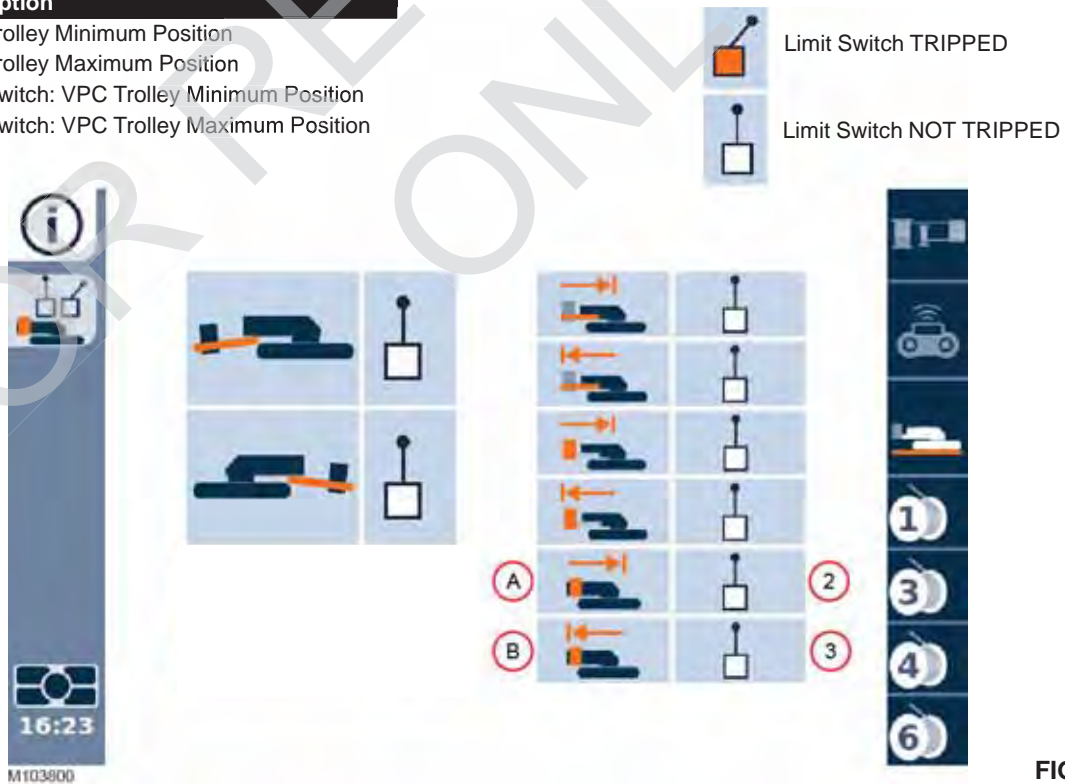

FIGURE 6-11
- a. Access the limit switch status information screen in the main display (Figure 6-11).
- c. In the main display (Figure 6-11), the minimum position (A) limit switch icon (2) must indicate that the limit switch is TRIPPED.
- e. In the main display (Figure 6-11), the maximum position (B) limit switch icon (3) must indicate that the limit switch is TRIPPED.